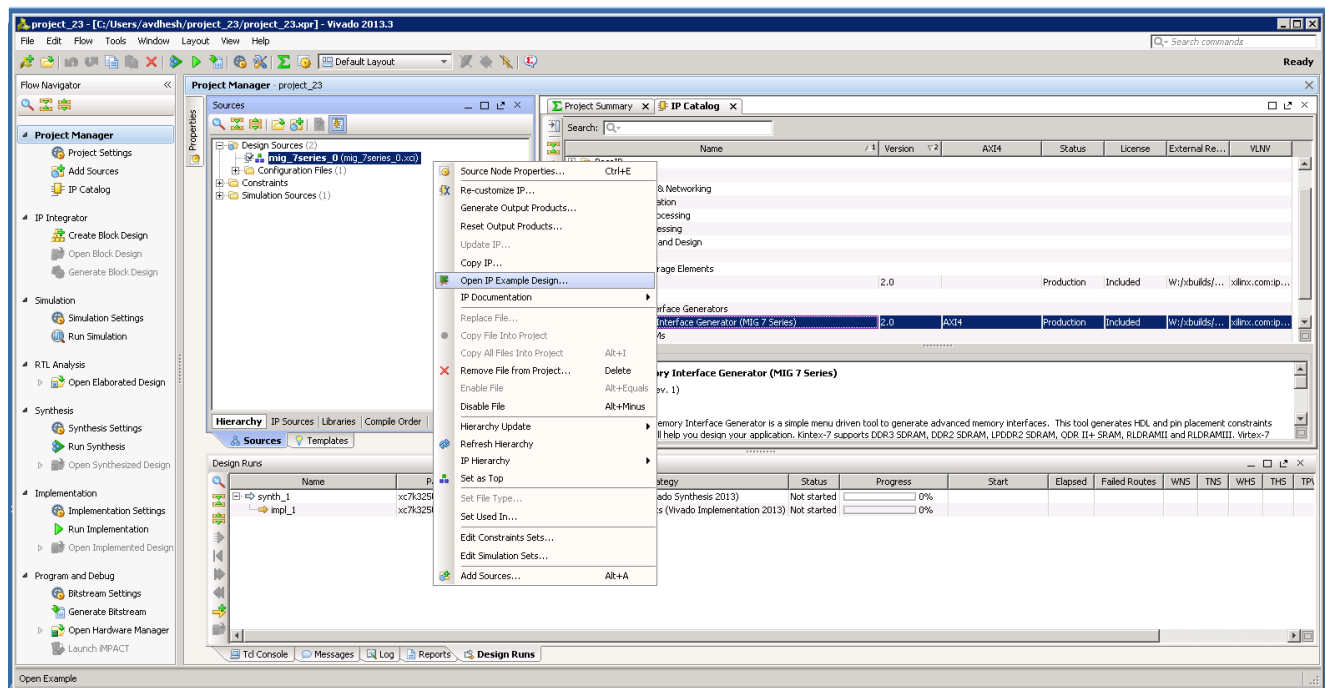

Figure 5-26: Open IP Example Design
9. The Vivado Design Suite supports **Open IP Example Design** flow. To create the example design using this flow right-click the IP in the **Source Window**, as shown in Figure 5-26 and select.